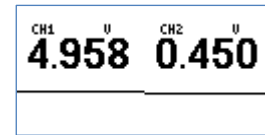

Figure 57: Meter mode
- 3) You should see similar voltages as shown on figure 57.